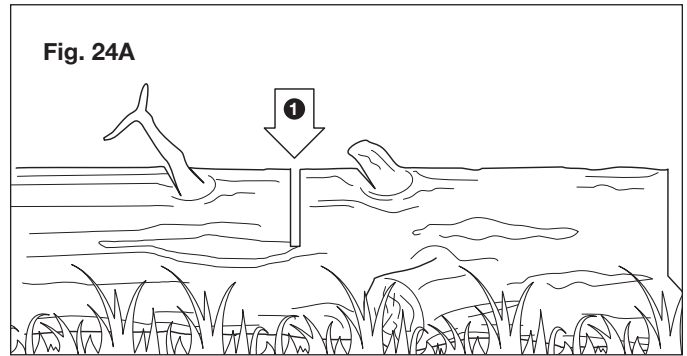

Fig. 24A
- When the log is supported along its entire length as illustrated (Fig. 24A), cut from the top (overbuck).